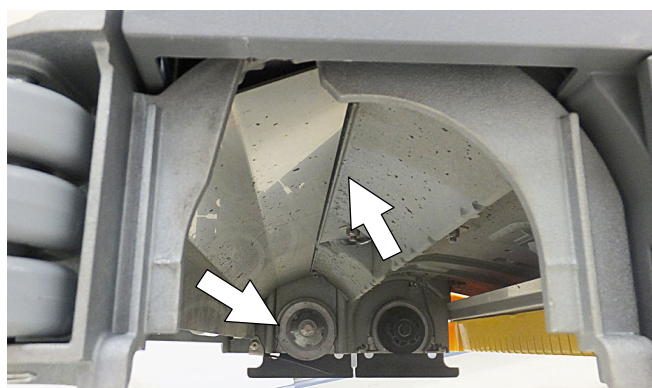

FIG. 101
3. Cylindrical scrub head - Remove debris buildup from underside of scrub head, including the idler plates and drive hubs (Figure 101).